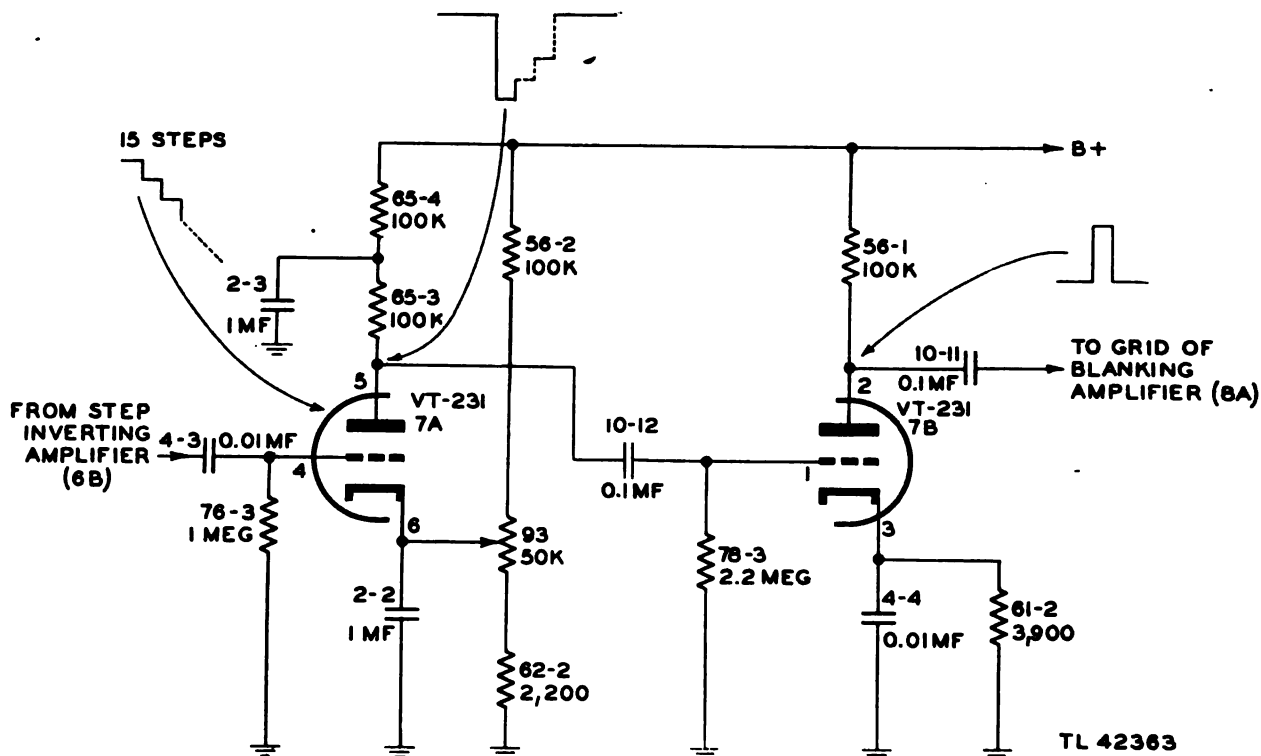

Figure 53. Step clipper, 7A, and limiter, 7B, partial schematic.
b. Tubes 7A and 7B and their associated circuit elements make up the step clipper and limiter stages. (See fig. 53.) Both stages operate as conventional resistance coupled amplifiers and produce a blanking pulse of the desired width to be used in the blanking